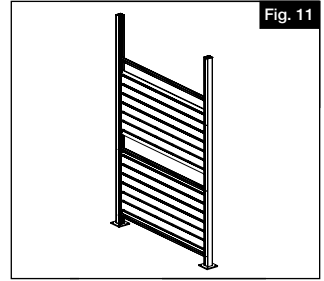

Fig. 11
10. Repeat steps 7-9 for the middle and top panel (Fig. 11 & 12).